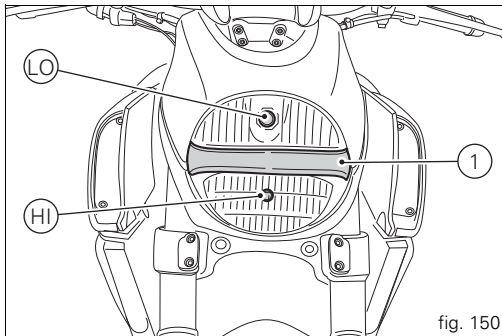

fig. 150
fig. 150 shows the locations of the low beam bulbs (LO), high beam bulbs (HI) and the parking light bulb (1).